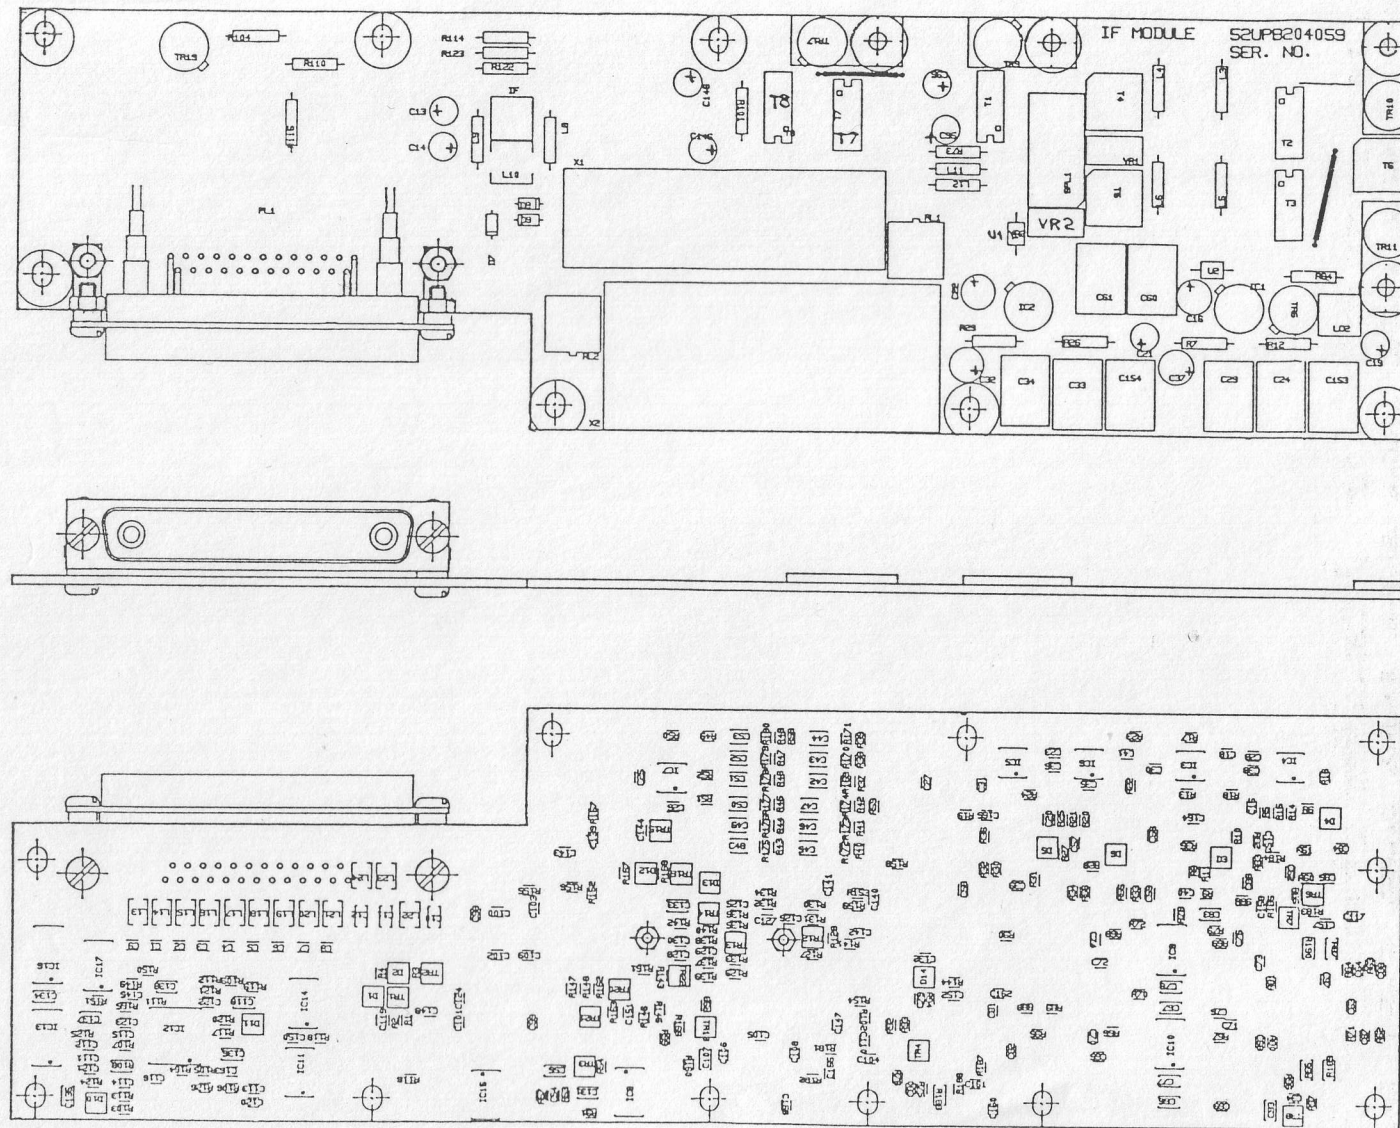

Figure 2 - IF Module Layout Diagram
- Figure 2 IF Module Layout Diagram